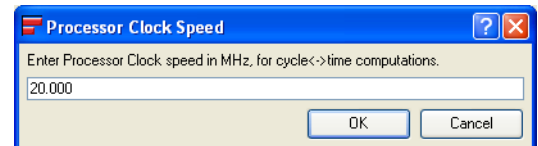

Figure 9-6 Defining processor speed
1. Select **View → Define Processor Speed for Scaling...** from the Analysis window menu to open the Prompt dialog box. Figure 9-6 shows an example: